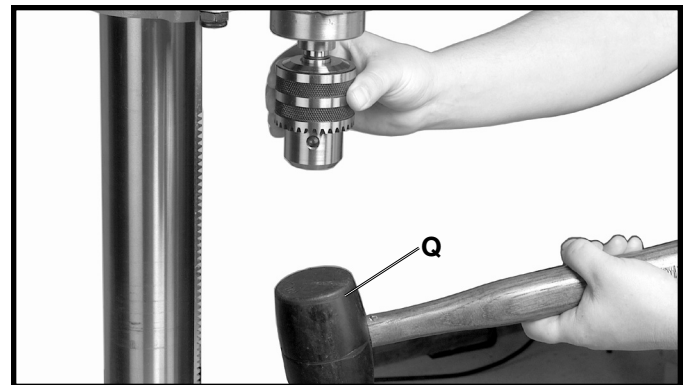

Fig. 15
16. Holding chuck on taper of spindle, tap with a soft tip hammer (Q) or a block of wood and hammer to set chuck, as shown in Fig. 15.